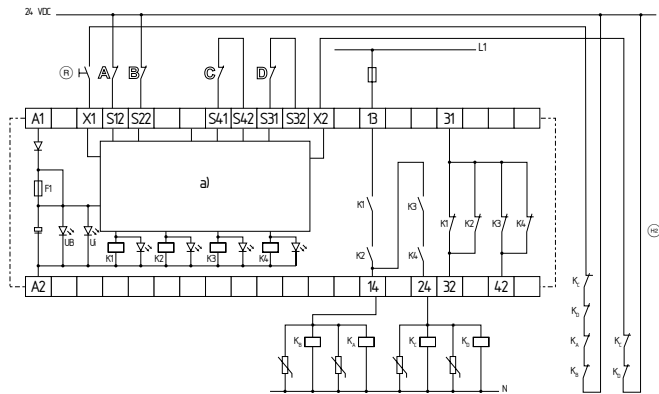

Fig. 2: SRB 202CS, 202CS/T
Dual-channel control, shown for an emergency stop circuit; with two contacts A and B and a guard door monitor with two contacts C and D, where at least one is a positive break contact; with external reset button (R) (related on the switch-off level 1) (see Fig. 2)